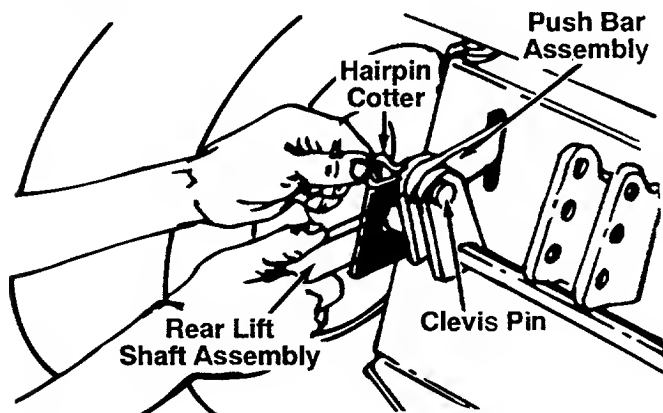

FIGURE 2.
1. Raise the lift shaft assembly until the hole lines up with the slot in the push bar assembly. See figure 2.